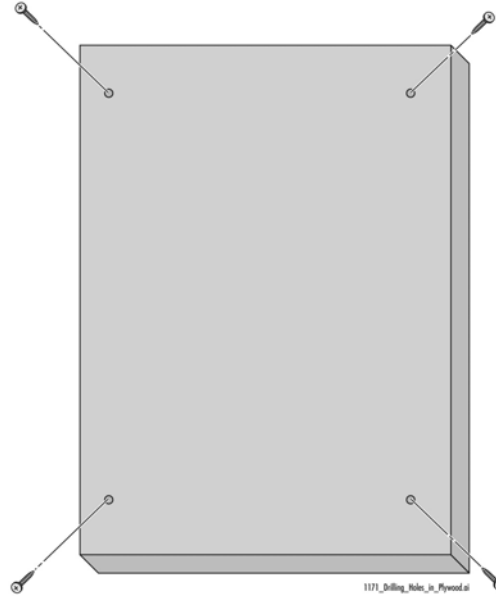

Figure 18. Securing the Plywood to the Wall
5. Fasten the plywood to the wall, using the holes that you drilled in Step 4. Use screws that ensure the plywood can withstand a downward force of 20 pounds. Refer to Figure 18.